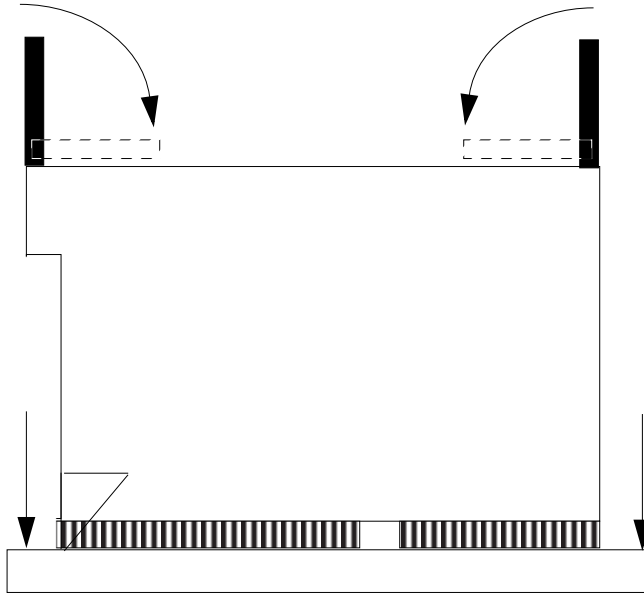

FIGURE 3-5 Locking the Module in Place
7. With both hands, simultaneously turn and press the levers downward to the fully horizontal position. Firmly press the module downward into the socket until it is fully seated and the levers are fully locked (FIGURE 3-5).